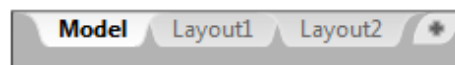

Figure Step 3
Step 3 Check to ensure that the Model tab is enabled. If it is not, enable it by clicking it with the left mouse button. (Figure Step 3)